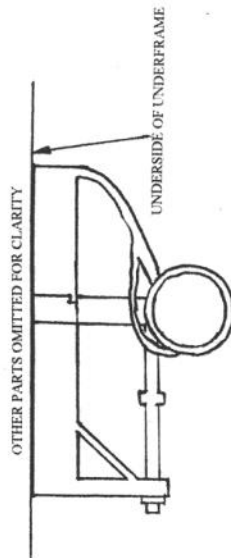

Fig. 15. DYNAMO. ASSEMBLY
q. Fit the Dynamo, Adjusting Bracket and Electrical Cables as shown in Fig.15. The position of the dynamo is shown in Figs. 6. & 6a. or 7.